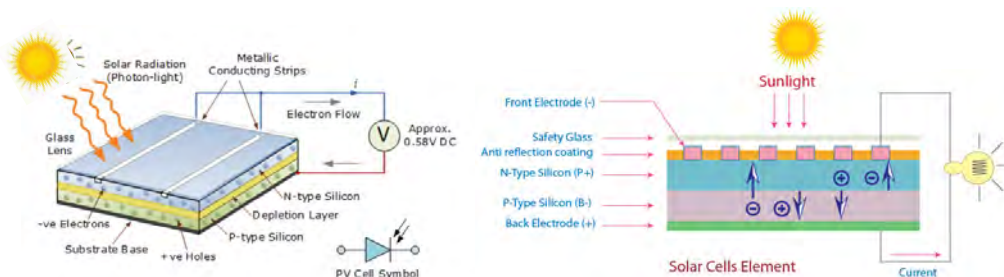

Figure-13. Working Principle of PV Cell and PV Cell Structure
Figure-13 illustrates a solar photovoltaic (PV) cell with a p-n junction configuration. In this diagram, one of the electrical contacts is formed by the bulbars, which also serves the dual purpose of allowing sunlight transmission.